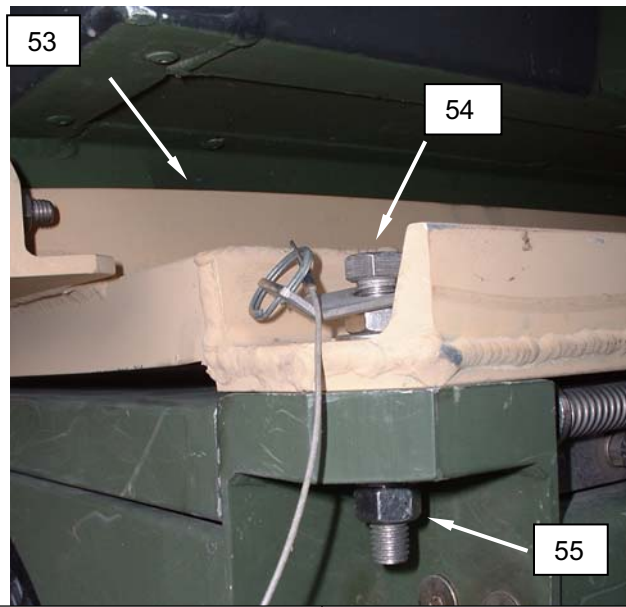

Figure 15. Prepare CBL for Use.
5. Lift ASH (**Figure 15, Item 50**) and place into position on left of CBL container.
6. Remove attaching bracket bolts (**Figure 15, Item 54**) and nuts (**Figure 15, Item 55**). Install nuts (**Figure 15, Item 55**) back onto bolts (**Figure 15, Item 54**) to ensure hardware is kept together. Remove attaching bracket (**Figure 15, Item 53**) from FDECU (**Figure 15, Item 51**). Stow attaching bracket (**Figure 15, Item 53**) with attached hardware in area between the CBL container and the TEMPER.
7. Lift and place FDECU (**Figure 15, Item 51**) into position on left of TEMPER.
8. Set up and operate the FDECU (**Figure 15, Item 51**) or ASH (**Figure 15, Item 50**), as applicable. Refer to TM 9-4520-258-14 for procedures to setup and operate the ASH; refer to TM 10-4120-411-14 for procedures to setup and operate the FDECU.